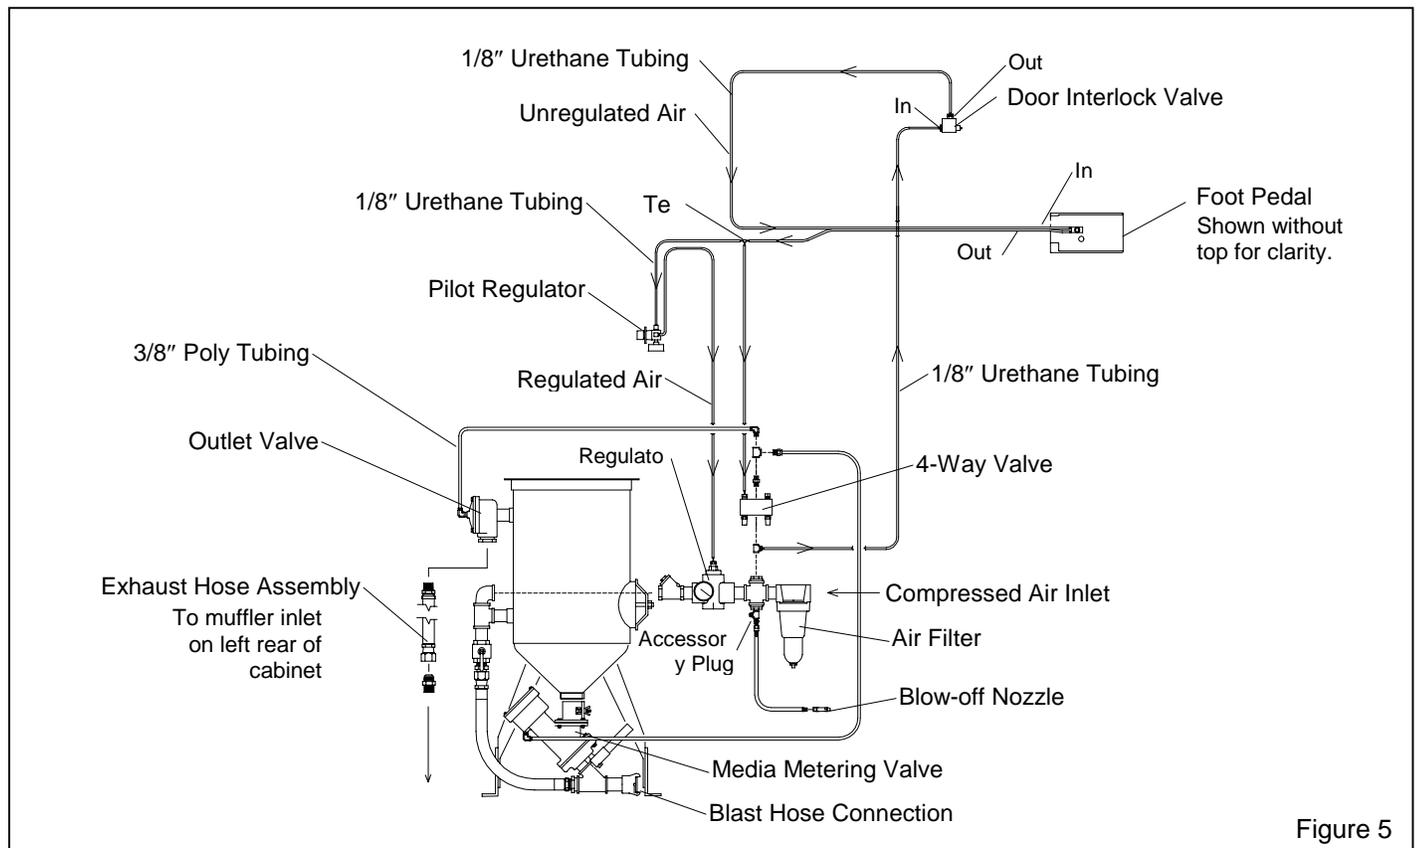

Figure 5
**2.1.3** See Figure 1 (and 2 for optional reverse pulse collector) for the general arrangement and Figure 5 for control line schematic. Select a location where compressed air and electrical service are available. The cabinet location must comply with OSHA and local safety codes. Allow for full access to all doors and service areas, and for efficient handling of large parts. Provide enough clearance in front of the dust collector to remove the dust drawer without tipping. Ideally, locate the blast machine directly behind the cabinet with the blast hose connection toward the cabinet. The reclaimers may be rotated on the blast machine to enable hose connections with as few bends as possible. Determine the best location, and position all units before final assembly.
**2.7.1** Attach the 1/2" blow-off hose coming from the front right cabinet hopper, to the compatible fitting on the blast machine piping, between the air filter and regulator. See the schematic in Figure 5.
**2.10.1** Uncoil the 1/8" urethane control tubing, from under the cabinet. The end of each tubing is numbered 1, 2, 3 or 4. Connect the tubing to the adaptor with the corresponding number on the pressure regulator, piping, and 4-way air valve. Check the schematic in Figure 5 to confirm the connections.